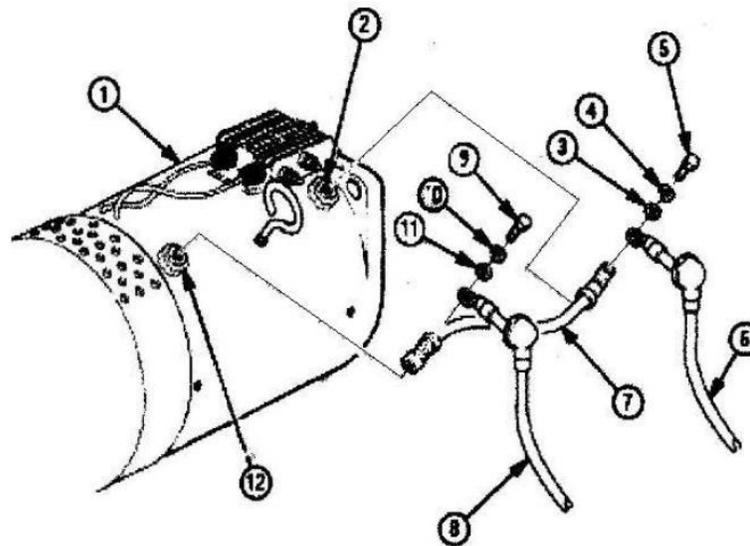

Figure 55
cc. Install Alternator and Regulator Electrical Components as follows: TM 9-2320-387-24-1, Chapter 4, Task Para 4-8.1 and 4-8.3, Pages 4-18.2 and 4-18/12 and **Figure 55** contained in these instructions.
(1) Remove screw (9), lock washer (10), washer (11), and 12339317 cable (8) from rear positive terminal (12) on 400 Amp Alternator (1) as shown in **Figure 55**. Retain all parts.
(2) Remove screw (5), lock washer (4), and washer (3) from front positive terminal (2) on 400 Amp Alternator (1) as shown in **Figure 55**. Retain all parts.
(3) Install 12460498-1 cable (7) and 12339317 cable (8) on rear positive terminal (12) on 400 Amp Alternator (1) with existing screw (9), lock washer (10), and washer (11) as shown in **Figure 55**.
(4) Install 12460498-1 cable (7) and existing cable (6) on front positive terminal (2) on 400 Amp Alternator (1) with existing screw (5), lock washer (4), and washer (3) as shown in **Figure 55**.